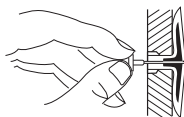

Figure 9 - Popping Open Anchor Wings For Thin Walls
4. For thin walls (1/2" or less), insert red key into wall anchor. Push red key to "pop" open anchor wings (see Figure 9).